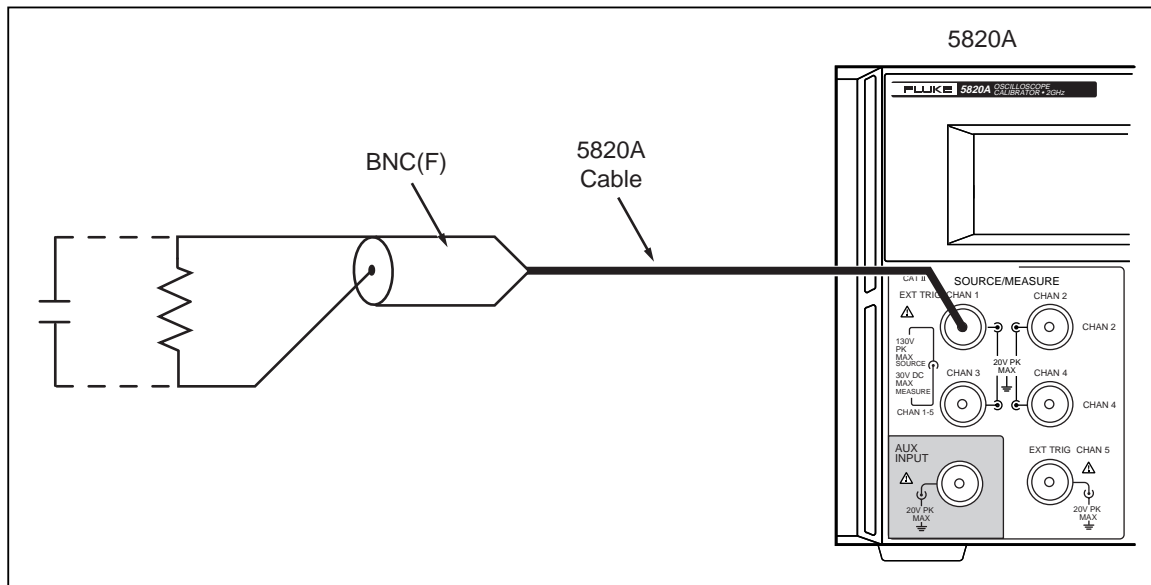

Figure 3-4. Setup for MeasZ Calibration
1. Connect the N to BNC cable to the SCOPE connector. Connect the other end of the N to BNC cable to the BNC(f) connector attached to the 40  $\Omega$  resistance. Refer to Figure 3-4 for the proper equipment connections.